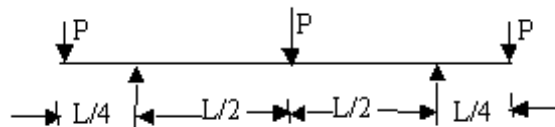

Figure 20:
5. Calculate deflection and slope at the free end of a cantilever beam of length 'L', with overhang of 'L/4' on either side, subjected to concentrated loads 'P' at the two free ends and at the center of the beam, by finite difference method. Shown in figure 20 [16]